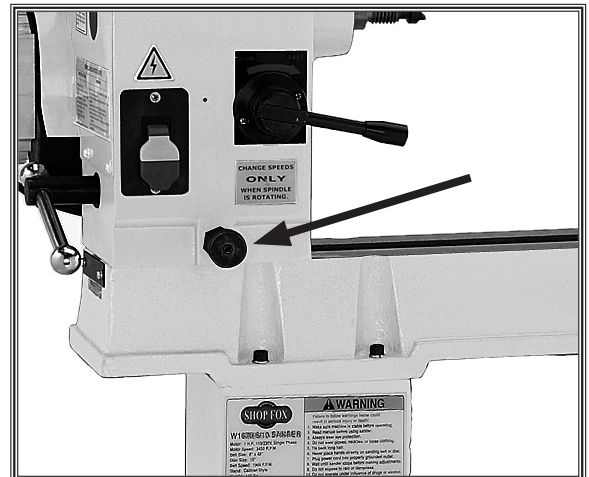

Figure 14. Headstock rotation locking pin.
3. Pull out the headstock rotation locking pin (see Figure 14), and rotate the headstock in place.